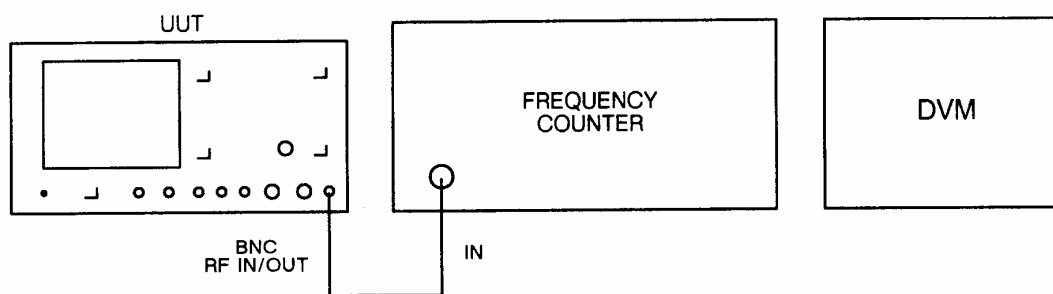

Fig. 5-2-4 Test equipment connections for adjusting C79 on AA4/1
- (1) Connect the equipment as shown in Fig. 5-2-4.